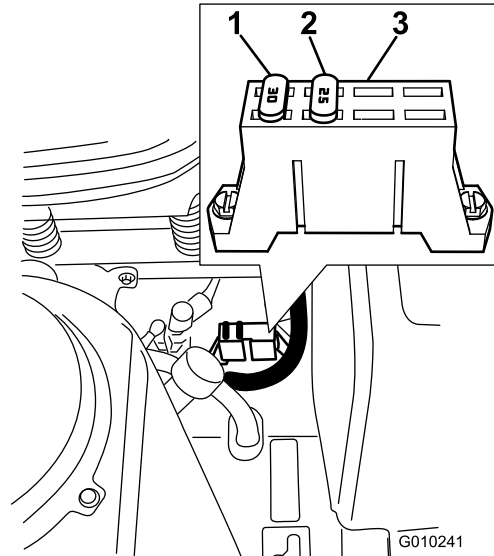

Figure 48
3. Install a new fuse (Figure 48).
1. The fuses are located on right hand console next to the seat (Figure 48).